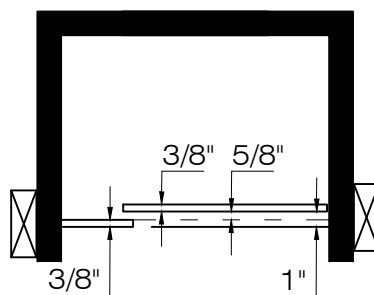

FIG.1A
- Prior to any installation, mark lines on the floor and wall for proper dry fit. Using painter's tape is a suggested method. Although the panels are parallel the fixed panel does not sit in alignment with the door panel. Proper planning is imperative for proper installation. [SEE FIG.1A on page 4]